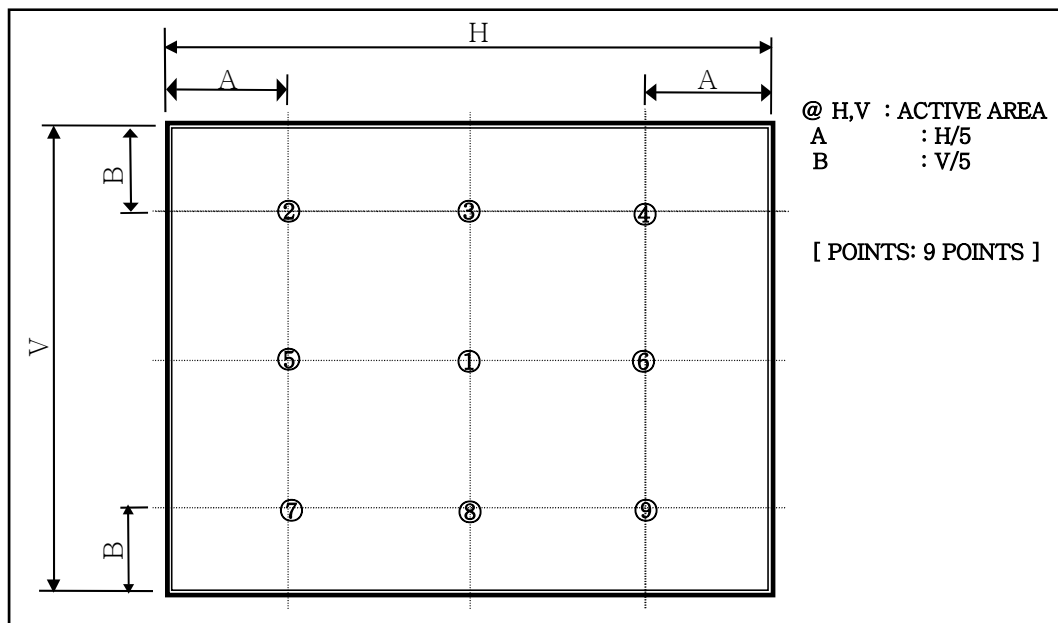

FIG. 4 9 Points for Luminance Measure
2. Surface luminance are determined after the unit has been 'ON' and More than 15 Minute after lighting the backlight in a dark environment at $25 \pm 2^\circ\text{C}$. Surface luminance is the luminance value at center 1-point across the LCD surface 50cm from the surface with all pixels displaying white. For more information see the FIG. 4.
For more information see the FIG. 4.